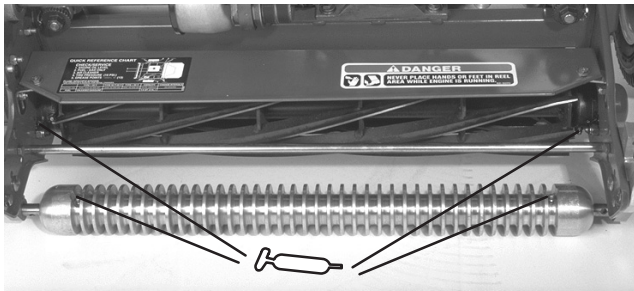

Figure 24
- 2 on the front roller (Fig. 24)
- 2 on the reel bearings (Fig. 24)